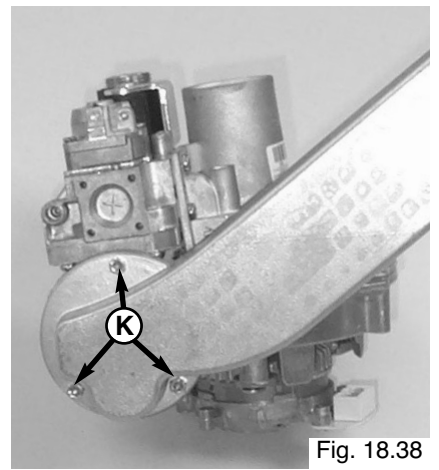

Fig. 18.38
4. Unscrew the three screws "K" on the air/gas pipe and remove (Fig. 18.38);